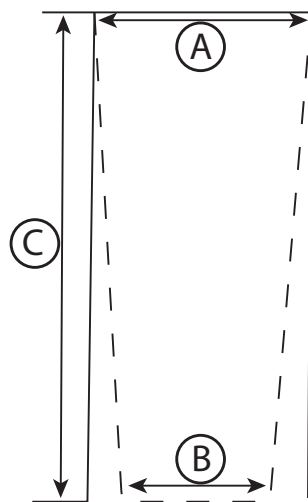

FIG. 5
- Step 4:** Layout out material as shown in figure 5 using measurements already taken. Cut out using scissors or razor knife.